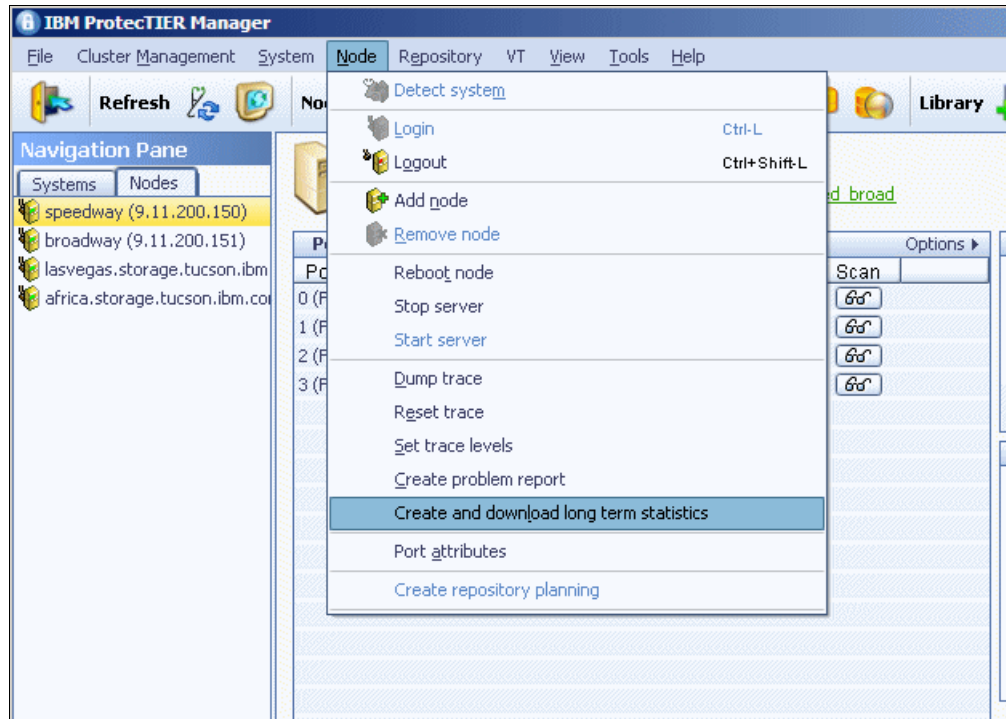

Figure 12-48 Creating long-term statistics report in ProtecTIER Manager
1. From the menu bar, select **Node** → **Create and download long-term statistics** (Figure 12-48).